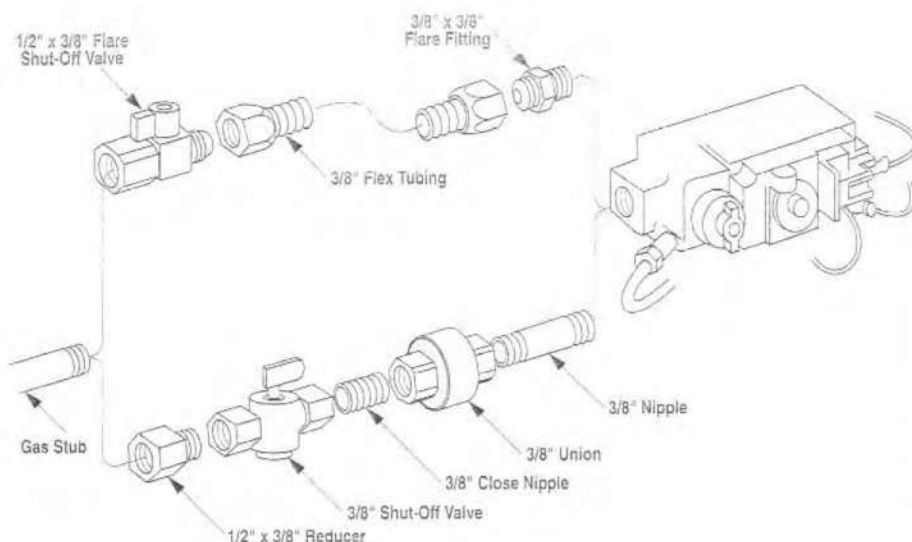

Figure 32
Step 7. Connecting gas line – Make gas line connections. All codes require a shut-off valve mounted in the supply line. Figure 32 illustrates two methods for connecting the gas supply. The flex-line method is acceptable in the U.S., however, Canadian requirements vary depending on locality. Installation must be in compliance with local codes.